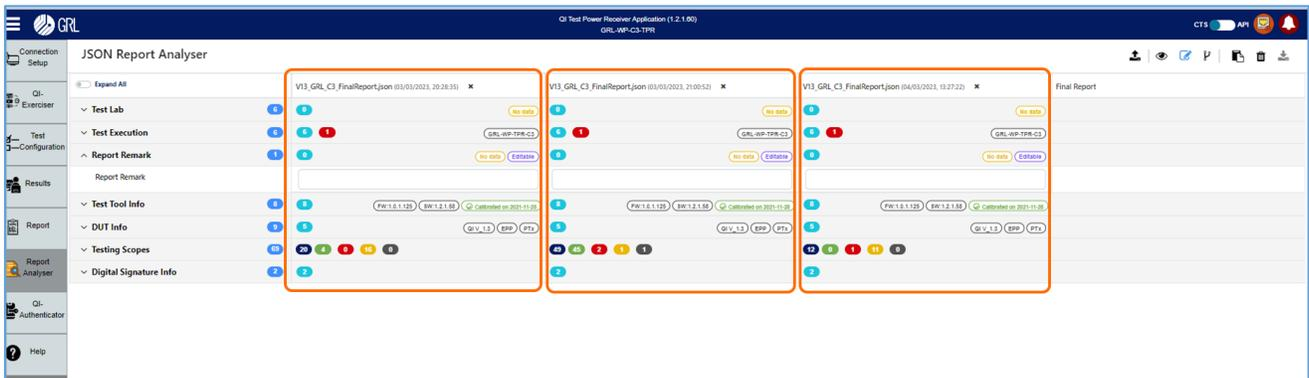

FIGURE 8.84: JSON FILES LOADED ON SCREEN EXAMPLE
3. After clicking on the **Upload** button, the selected JSON files will be loaded on to the *JSON Report Analyzer* screen as shown in the example in Figure 8.84 below.